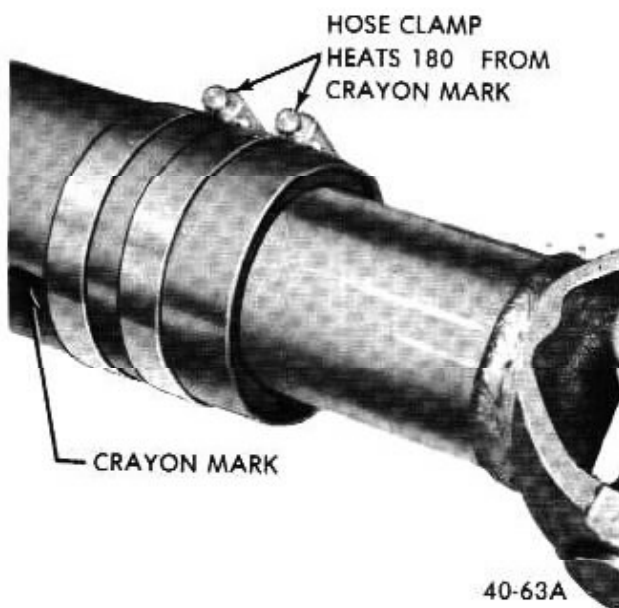

Figure 40-56 - Balance Hose Clamps in Place
2. Mark and number propeller shaft at four (4) points 90 degrees apart at rear of shaft just forward of balance weight.
3. Install two (2) Wittek type hose clamps on the rear propeller shaft and slide them rearward until the clamps stop at the nearest balance weight welded to the tube. Align both clamps to any one of the four marks made on shaft in Step 2. Tighten the clamps. See Figure 40-56.